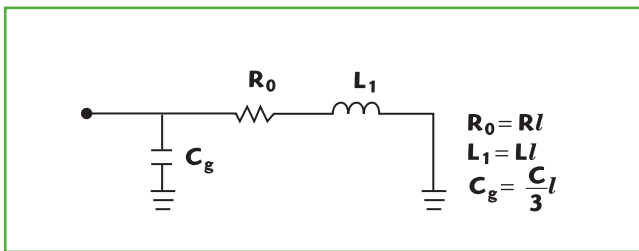

Figure 9: Low frequency lumped equivalent circuit for short-circuited lossy line
We recognize this as the admittance of the circuit shown in **Figure 9**. The inductance and capacitance both impose limits on how well matched we can make the termination over a given bandwidth.
In the late 1940's, H.W. Bode considered the problem of impedance matching two-element RC or RL loads.³ Bode's work was extended and generalized by Fano⁴ in 1950; Fano presented the limitations on impedance matching *any* load over an angular frequency range, ω_a to ω_b . However, for illustrative purposes, let us consider the case analyzed by Bode, i.e., where the inductive reactance is so much less than the value of the resistance at the highest frequency of interest that we can neglect the inductance altogether. For further simplicity, we take the lower frequency as zero (DC). Then, applying Bode's formula to the circuit of Fig. 9, the best possible results are limited as indicated by